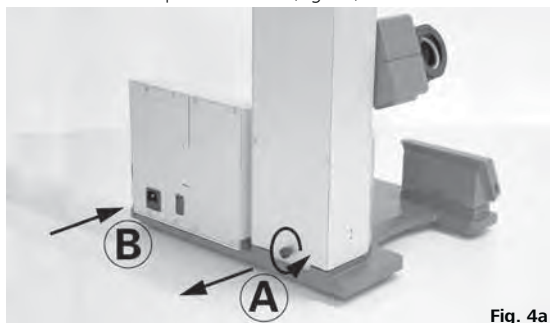

Fig. 4a
**Caution!** Loosen transportation lock (Fig. 4a)